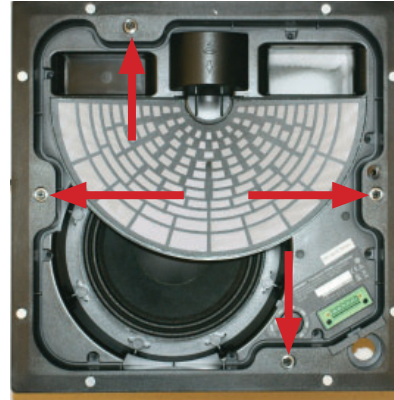

Figure 9
2.3 The four red arrows shown in figure 9, reference the four anchor bolts that secure the baffle to the enclosure. The anchor bolts must be loosened to separate the baffle from the enclosure.